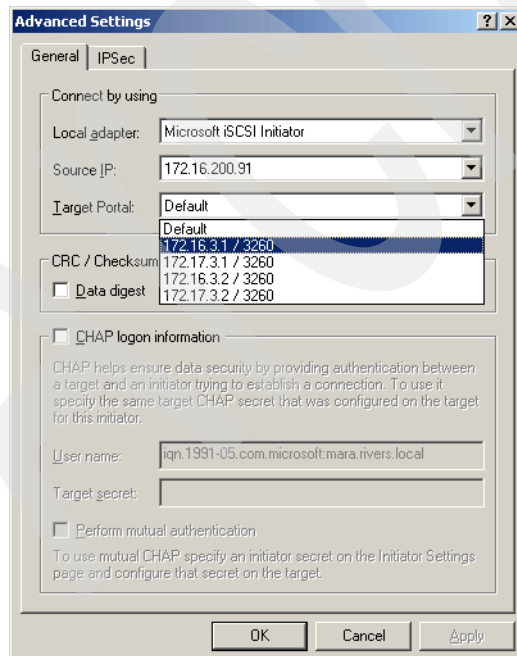

Figure 23-29 Advanced settings - Target portal
4. Select the IP address of the first controller in the first iSCSI network from the **Target Portal** drop-down menu, as shown in Figure 23-29.